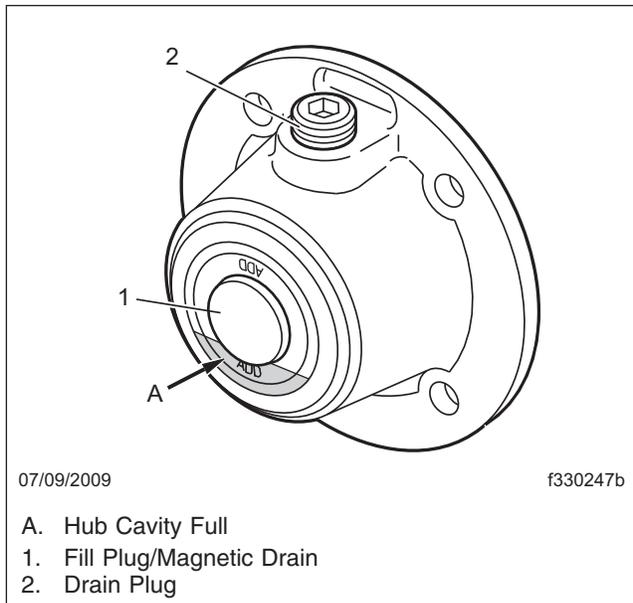

Fig. 11, Oil-Filled Hub Cap
3. Place suitable containers under the hubs, remove the filler plugs (in the ends of the hub caps) and the drain plugs, and allow the hubs to drain completely. See Fig. 11.
IMPORTANT: Fill the hubs to the level indicators on the hub caps, or to no more than 1/4 inch (6 mm) above the indicators. See Fig. 11.